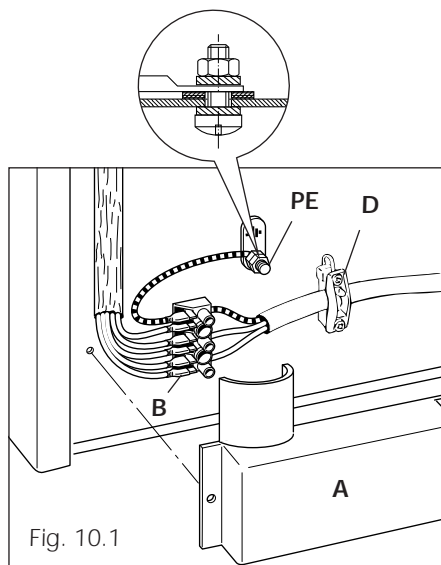

Fig. 10.1
- Remove the screw that hold shield "A" behind the cooker (fig. 10.1).